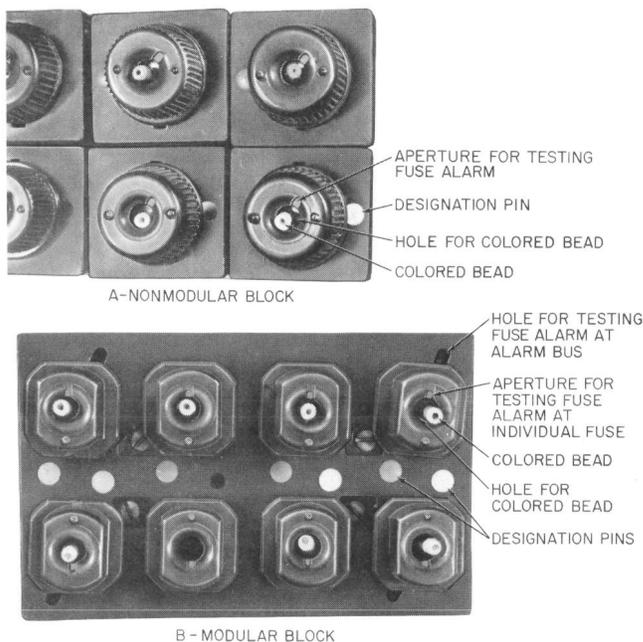

Fig. 1—70-Type Alarm Fuse With Alarm Test Point
Note: A test point is provided at the front of the fuse cap for 70-type fuses (Fig. 1). This test point should be used to test the fuse alarm.
- (3) With the tip of the 411C test pick (attached to the battery connected W1AF cord), touch the exposed alarm test point on the fuse cap (Fig. 1) for one fuse.